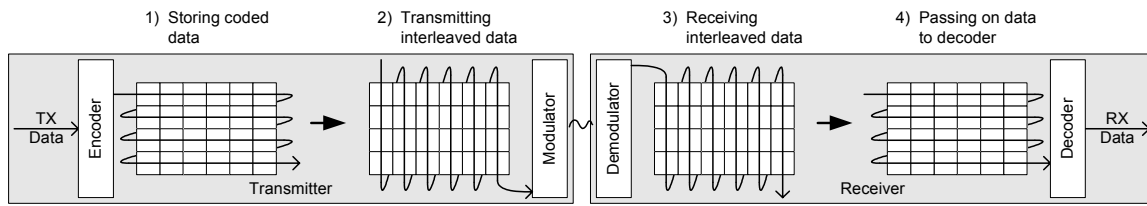

Figure 14: General principle of matrix interleaving
**CC2500** employs matrix interleaving, which is illustrated in Figure 14. The on-chip interleaving and de-interleaving buffers are 4 x 4 matrices. In the transmitter, the data bits are written into the rows of the matrix, whereas the bit sequence to be transmitted is read from the columns of the matrix and fed to the rate 1/2 convolutional coder. Conversely, in the receiver, the received symbols are written into the columns of the matrix, whereas the data passed onto the convolutional decoder is read from the rows of the matrix.